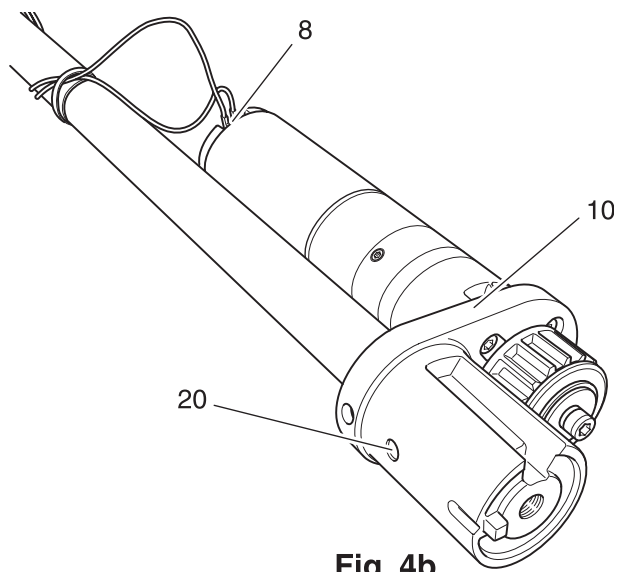

Fig. 4b
- Slightly loosen screw 20 of the motor flange 10 (fig. 4b).